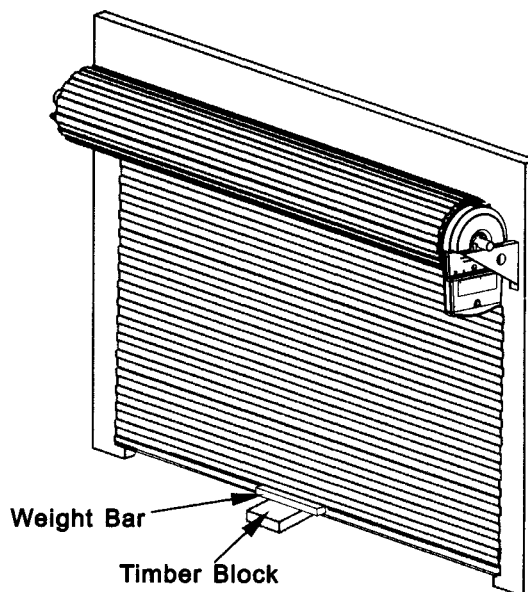

Fig 10
- 3.1 Fix the weight bar to the top edge of the garage door bottom rail with the screws and nuts provided (Fig.10).
- 13.1 With the garage door in the fully open position, place a timber block measuring 100mm x 40mm on the floor directly under the middle of the garage door. (Fig.10)